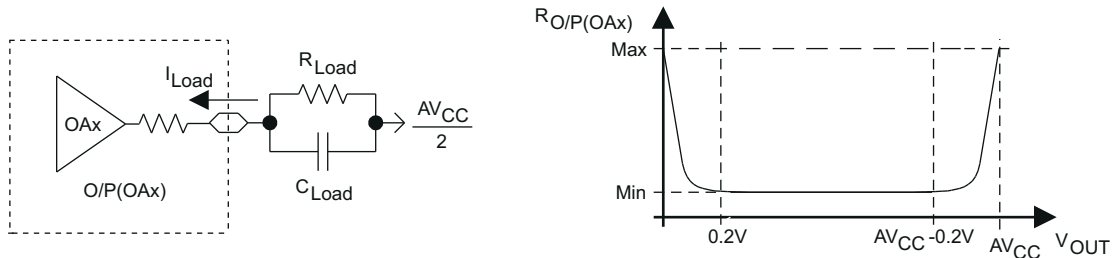

Figure 8-29. OAx Output Resistance Tests
| R O/P (OAx) | Output resistance (4) (see Figure 8-29) | R Load = 3 kΩ, C Load = 50 pF, RRIP ON, V O/P(OAx) < 0.2 V                            | 2.2 V, 3 V      |                              | 150  | 250                   | Ω      |  |